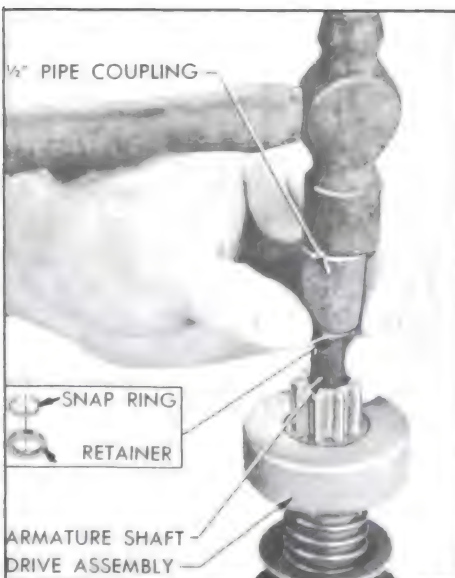

Figure 10-32—Removing Pinion Stop Retainer and Snap Ring
7. To remove drive assembly from armature, place a metal cylinder of proper size (1/2" pipe coupling will do) over end of shaft to bear against the pinion stop retainer. Tap retainer toward armature to uncover snap ring. See Figure 10-32. Remove snap ring from groove in shaft, then slide retainer and pinion drive assembly from shaft.